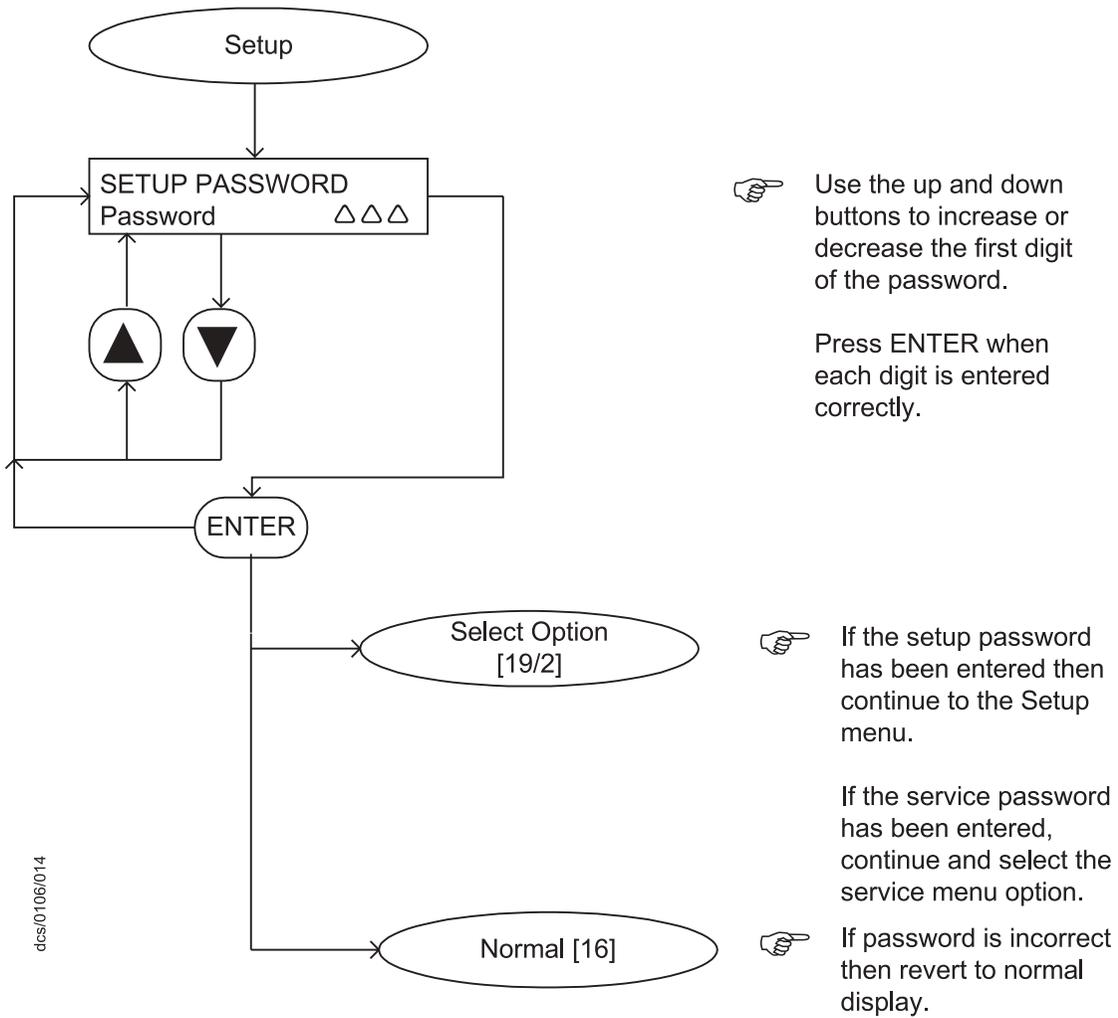

Figure 23 - Setup menu (sheet 1 of 3)
- When you enter the password for the setup menu (Figure 23), if you press CANCEL, before you enter the value, the menu moves back to entry of the previous digit of the password.
1. Press the Setup button to enter the Setup menu (Figure 23).
7. Press the ENTER button; the display will then show 'UNITS SELECT' on the top line and 'PRESSURE' on the bottom line (see Figure 23).